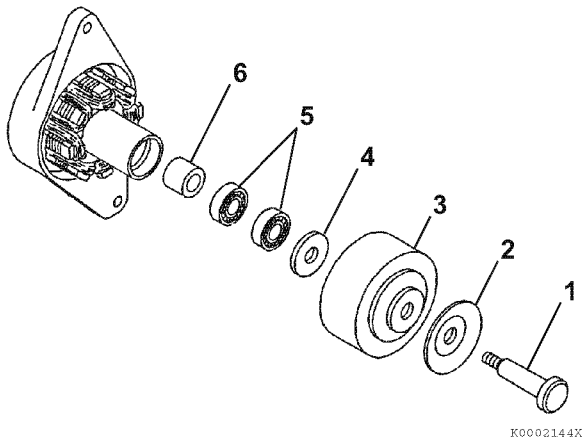

Figure 11-25
3. Remove the through bolt (Figure 11-25, (1)), pulley half (Figure 11-25, (2)), flywheel (Figure 11-25, (3)), flat washer (Figure 11-25, (4)), bearings (Figure 11-25, (5)), and spacer (Figure 11-25, (6)).